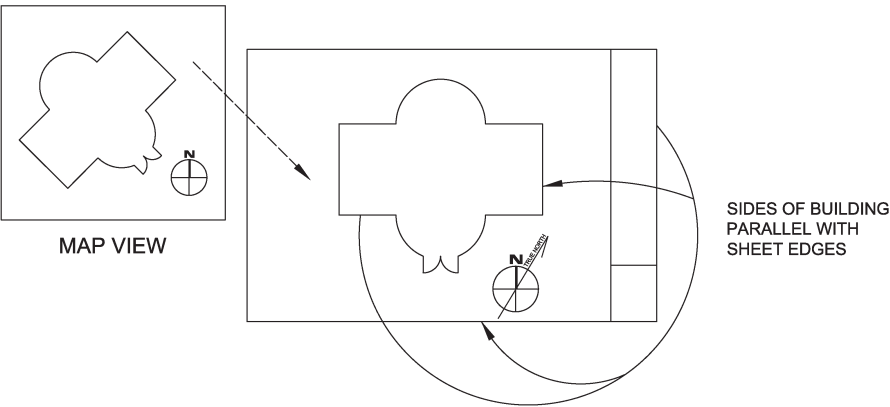

Figure 2 - Sample Plan Orientation
- D. Comply with NCS Version 5 (UDS Section 4.2). *Refer to Figure 2 – Sample Plan Orientation.*